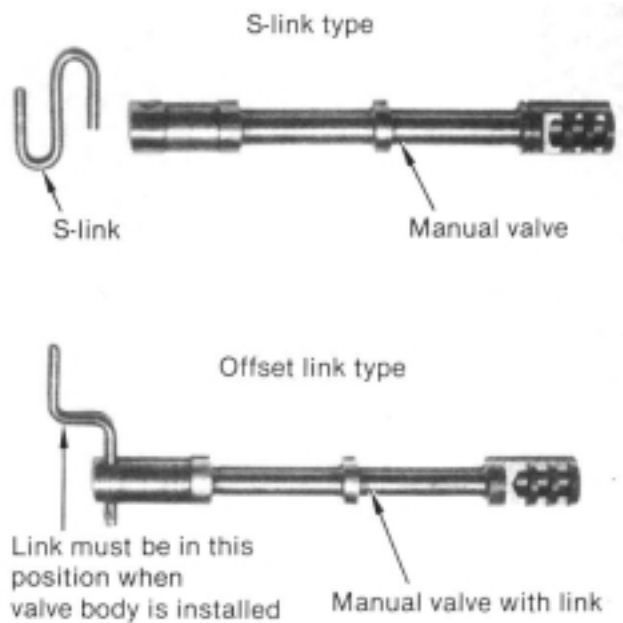

FIGURE 9
“S” link model (See Fig. 9): Rotate the range inner selector lever noting clearance with bolt ‘A’ (See Fig. 8) If range selector inner lever contacts bolt “A” head or there is not a 1/16" clearance between the two, mark that area of bolt head. Remove bolt & grind or file angle flat at that portion of bolt head. Reinstall bolt and check clearance again. Failure to provide detent roller engagement into range selector inner lever may prevent transmission from shifting into park.
STEP 13. Remove center pan bolt. Guide valve body into position. Engage manual valve linkage in selector lever. “S” link can only be installed one way. Offset linkage must be installed with the link in the forward position. (See Fig. 9) Install valve body bolts finger tight. Install detent roller spring so it engages range selector inner lever. Tighten valve body bolts to 100 in.-lbs. Make sure range selector inner lever operates freely at this point with positive indexing in each gear.
“S” link model (See Fig. 9): Rotate range selector inner lever all the way forward and check to see that bolt ‘B’ does not prevent range selector inner lever from going into last detent slot. (See Fig. 8) If bolt head ‘B’ prevents this action, rotate range selector inner lever out of the way. Remove bolt and grind or file a